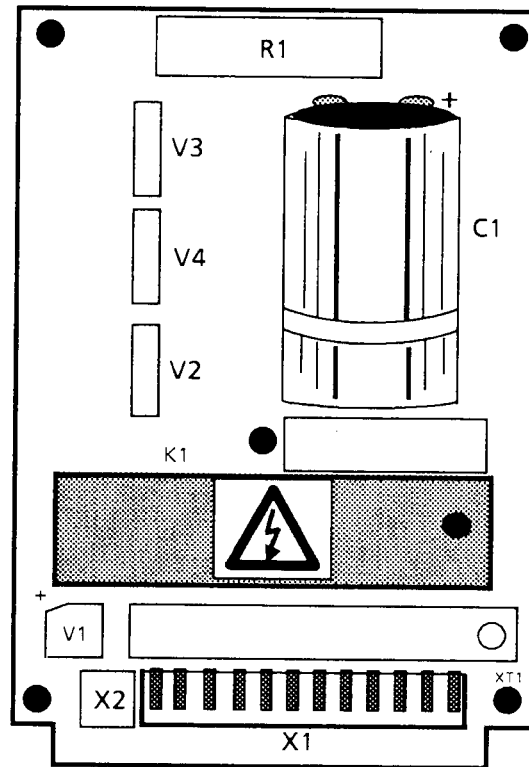

Figure 3-29. Auxiliary Power Supply Card (INU-A9)
- 3-2.4.7 Auxiliary Power Card (SAFT-146/3500-APC)** - The Auxiliary Power Card (Figure 3-29) provides the Power Supply Card with an extra 300 volts during start-up situations. The Auxiliary Power Card also acts as the Power Supply Cards main voltage source when the inverter is run in the simulation mode.